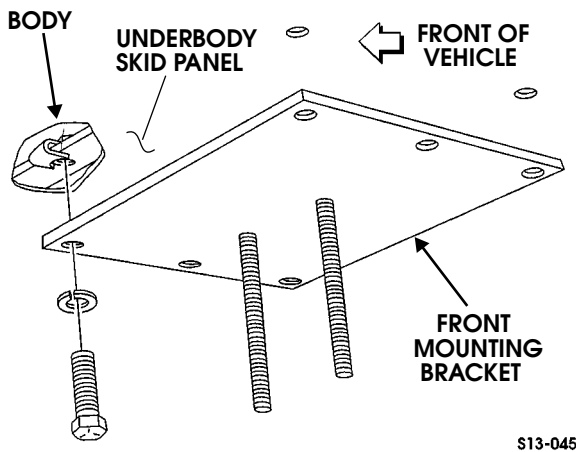

Figure 13-51: Front Mounting Bracket
- Remove four bolts, lockwashers, and front mounting bracket from underbody skid panel and body (Figure 13-51).
- Install front mounting bracket on underbody skid panel and body with four lockwashers and bolts. Tighten bolts to 29-31 lb-ft (39-42 N•m) (Figure 13-51).